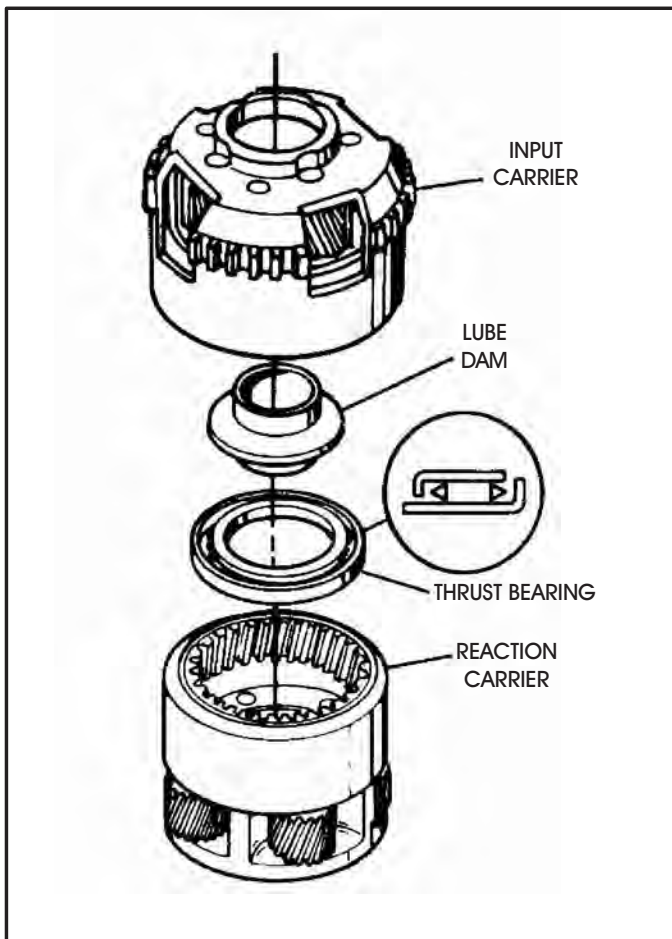

Figure 106
3. Install lube dam into the input carrier, as shown in Figure 106.
4. Install input carrier to reaction carrier thrust bearing in the direction shown in Figure 106, and retain with small amount of Trans-Jel®.